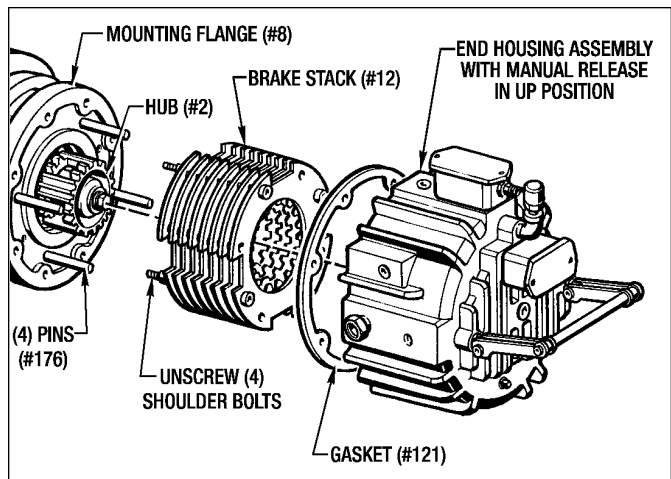

Figure 7.2 - Replacing the Brake Stack (MSB9 & MSB10)
(See Figures 7.2 and 8.1)
2. The Brake Stack (#12) can now be removed by unscrewing the (2) Shoulder Bolts that attaches the Drive Plates to the Mounting Flange (#8). Pull the whole Brake Stack (#12) off the Hub (#2) spline and the (4) Pins (#176). (See Figure 7.2)